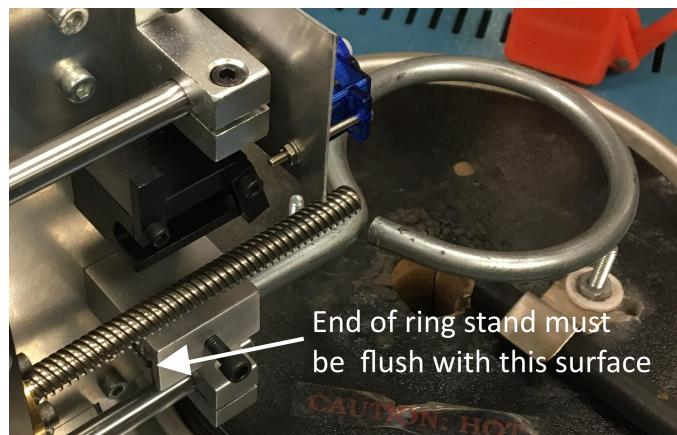

Figure 9: Place the ring stand so its end is flush with the inside surface of the mount block
- Note that the end of the ring stand rod must be nearly flush with the inside surface of the ring stand mount block (See Figure 9)